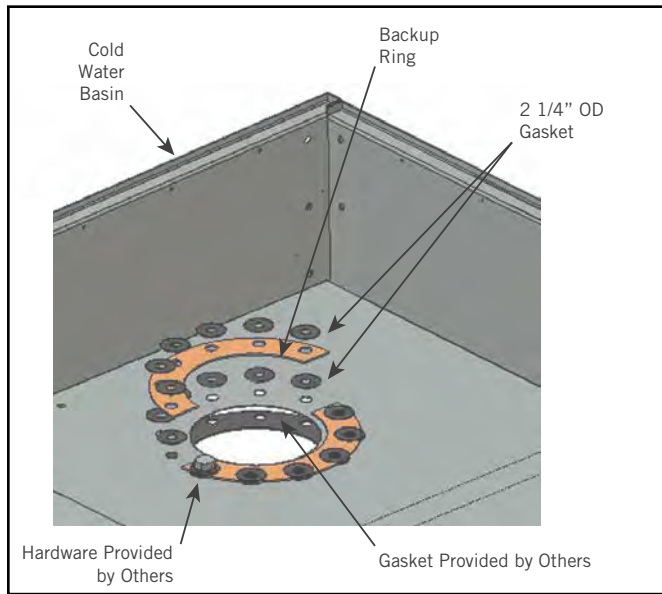

Figure 13 - Bottom Water Outlet
1. The bottom connection seal, Figure 13, is typical for all bottom remote sump outlets, and bypasses. Flange mounting hardware and gasket to be supplied by others.